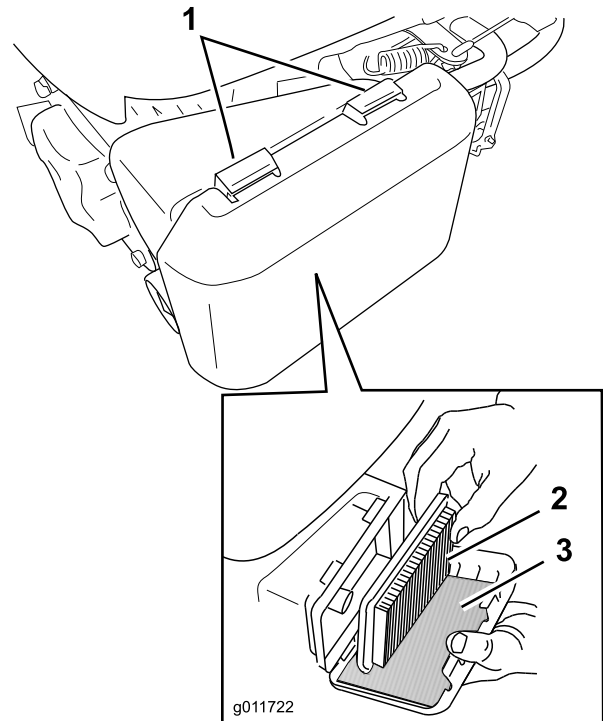

Figure 36
1. Press down on the latch tabs on top of the air cleaner cover (Figure 36).
3. Remove the paper air filter and the foam pre-filter (Figure 36).